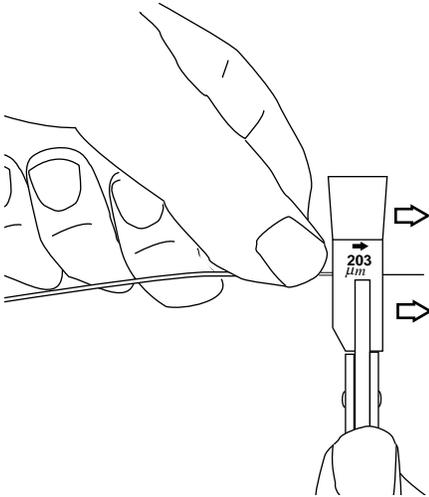

Figure 8
4.9 Using the No-Nik stripping tool, remove the tight-buffered coating in 6 mm (0.25 in.) increments until the desired length is obtained (Figure 8).